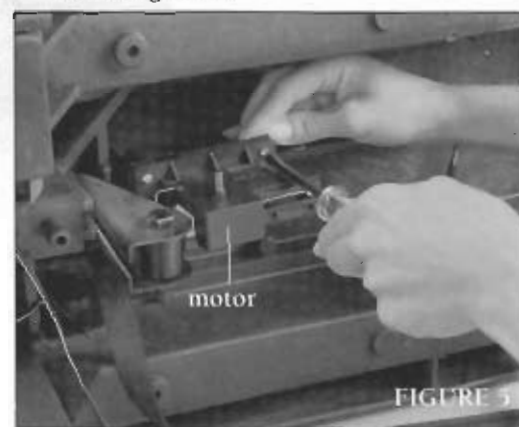

FIGURE 5
8. Use the small flat wrench and the Phillips screwdriver to tighten the nuts onto the bolts (Figure 5).